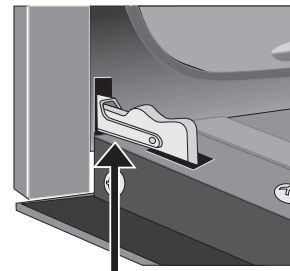
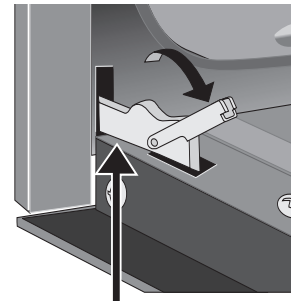

Figure 36: Door hinge locks
Figure 37: Unlocking door hinge
2. Pull up the lock located on each hinge support toward front of the oven until the lock stops. You may have to apply a little upward pressure on the lock to pull it up (Figure 36 and Figure 37).
4. Push the door hinge locks up toward and into the oven frame on both left and right oven door hinges to the locked position (Figure 36).